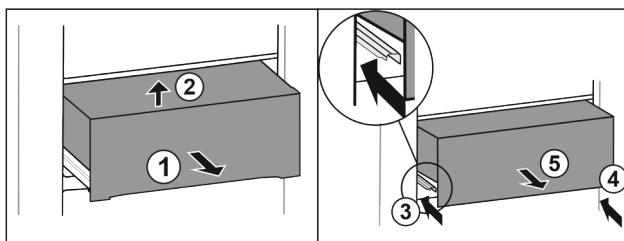

Fig. 22
- Pull out the drawer half-way Fig. 22 (1).
- Lift at the front Fig. 22 (2).
- Insert left rail Fig. 22 (3).
- Insert right rail Fig. 22 (4).
- Take out the drawer to the front Fig. 22 (5).